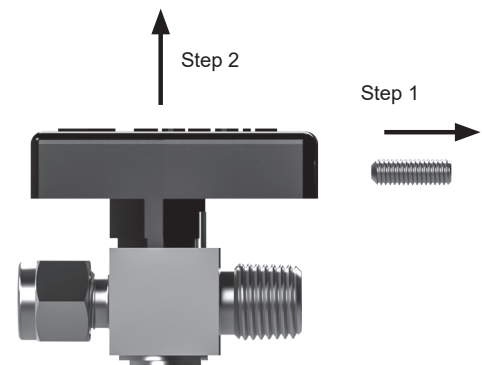

Figure 1
1. Loosen handle set screw using a 3/32" hex wrench (figure 1).